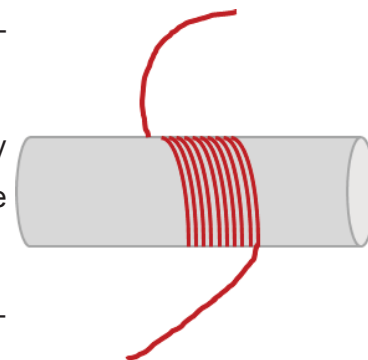

Figure 7: Step 2 reference.
2. Wrap the wire around the syringe making a coil of 15 turns around the body of the syringe. Leave a length of excess wire on each end of the coil (Figure 7).